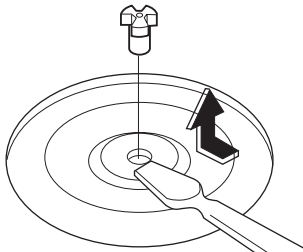

Figure 18
- (1) Remove the glass tray and rotating ring.
- (2) Remove the turntable shaft VERY CAREFULLY with one hand. (Figure 18)